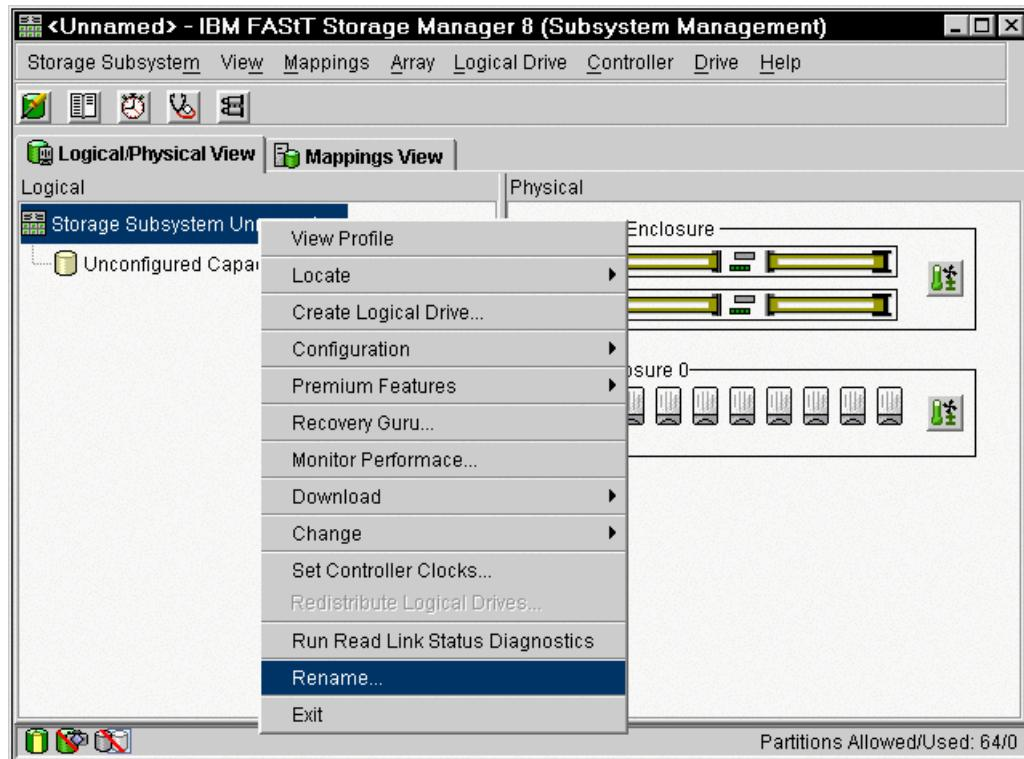

Figure 4-25 Renaming the FASST Storage Server
1. If you installed more than one FASST Storage Server, it is important to give it a literal name. To rename the FASST Storage Server, open the Subsystem Management window. Right-click the subsystem, and click **Storage Subsystem-> Rename** (Figure 4-25).